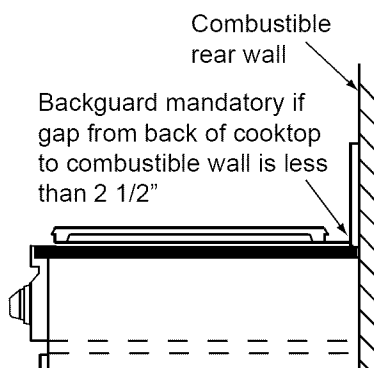

FIGURE 2
- Installation of a non-combustible material* (up to the hood) or a backsplash is always recommended, and mandatory if the distance to the back wall from the cooktop is less than 2 1/2" (Figure 2). When installing a backguard, use only Dacor model numbers AEB3009 or AEB3012 (for model DRT304S) AEB3609, AEB3612 (for model DRT366S).